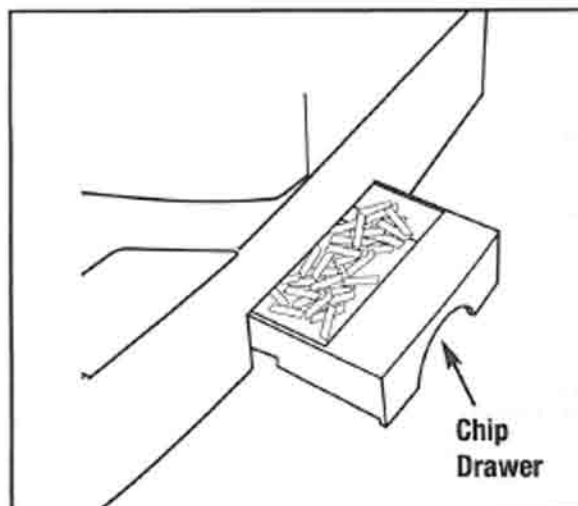

Figure 5
#### C. EMPTY CHIP DRAWER (see Figure 5)
1. Your CombBind C210E has a chip drawer located on the right side of the machine (see Figure 5). When it is full, an indicator light located above the punch button will illuminate. To empty, gently pull the drawer open and remove it from the machine. Dispose of the contents and re-insert the drawer into the machine until it snaps in place.